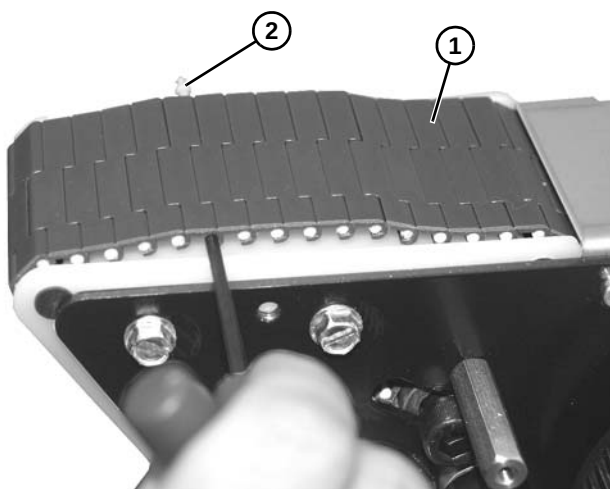

Figure 106
7. Lift slightly on belt (**Figure 106, item 1**) and push pin (**Figure 106, item 2**) out of belt.